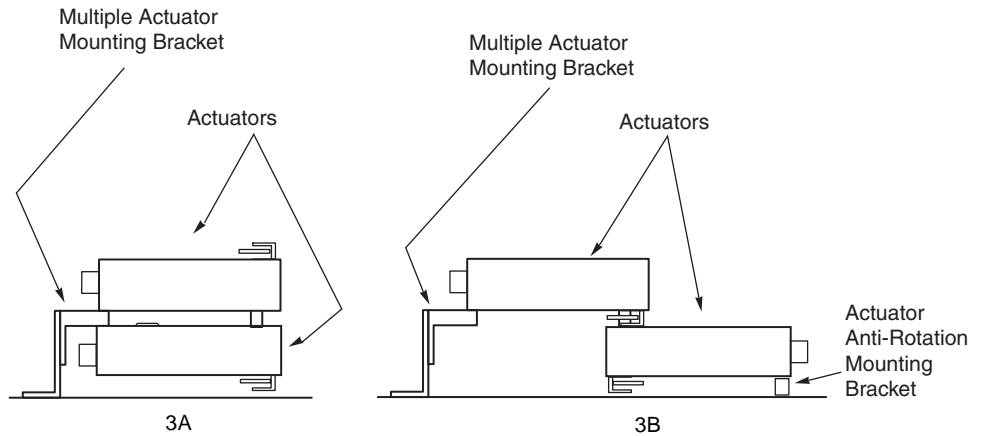

Figure-5 Installation Options for Multiple Actuator Mounting Bracket AM-673.
1. Install the universal mounting bracket onto the mounting surface, using either the four 1/4" (6.35 mm) diameter holes in its base or the five 1/4" X 5/8" (6.35 x 15.87 mm) oval holes in its edge (See Figure-5).
Determine how the two damper actuators will be mounted. Using the multiple actuator mounting bracket, it is possible to mount the actuators one directly above the other (See view 3A in Figure-5), or with the top actuator 180° opposed to the bottom actuator (See view 3B in Figure-5). Note that the advantage of mounting the second actuator directly above the first is that a smaller mounting area is required and it allows for neater routing of the actuator wires. The advantages of mounting the second actuator at 180 degrees opposed to the first are that the actuators may be mounted on a shorter damper shaft.
Mounting Procedure (View 3A in Figure-5)